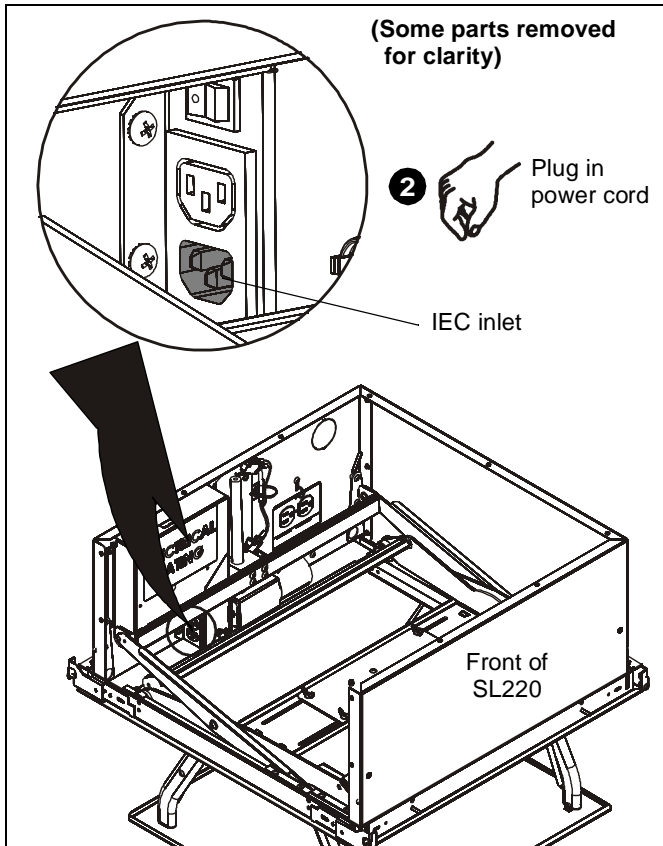

Figure 11
2. Plug power cord into IEC inlet on rear panel inside SL220. (See Figure 11)